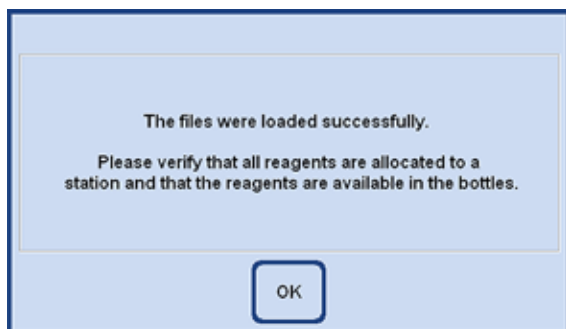

Fig. 120
- Once all data has been loaded successfully, a message confirming this appears on the screen and prompts the user to check that the reagents have been assigned correctly (Fig. 120).